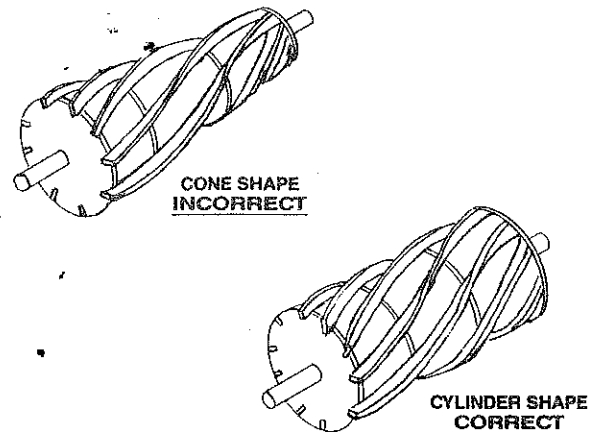
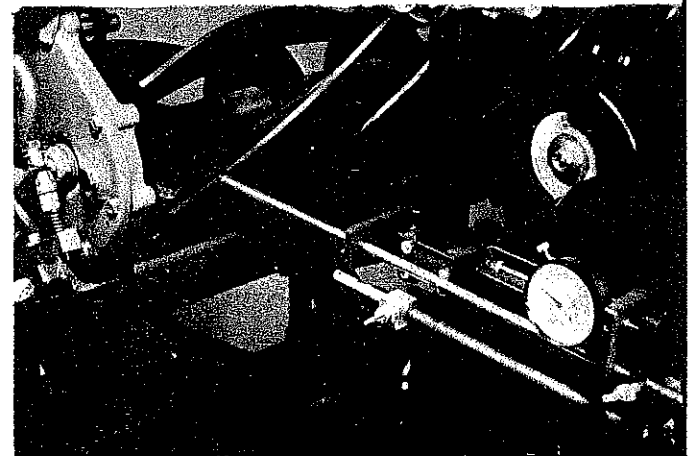

FIG. 78
FIG. 81
(See FIG. 78)
- A. Before storing the set-up gauge, it is very effective to use it to check the unground reel to determine the amount the reel is conical in shape or which end has the larger diameter. (See FIG. 78) Start with the set-up gauge at the right end of the reel. Loosen the wing nut on the indicator stop bar, holding the indicator rod firmly against one blade (see FIG. 81). Pull the indicator stop bar back until it clears the plunger then advance it forward until it contacts the plunger and advances it 1/2 inch further. Lock in place. This sets the plunger at its midpoint and allows adequate movement in both directions. Set outer dial at zero and note position of pointer on small dial.
- C. After grinding a reel, check the roundness on each end of the reel and center before removing ground reel. (See FIG. 81)